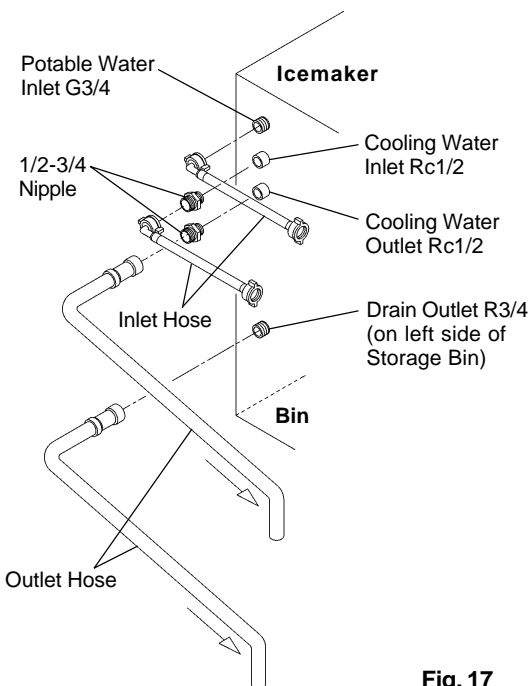

Fig. 17
**[b] Connections according to regulations other than WRC by utilising accessory hoses (Fig. 17)**
- 2) For Condenser connections, use supplied accessory hoses and make the same connections as 1) to 3) in [a] above to the free end of 1/2-3/4 nipples as indicated (Fig. 17).